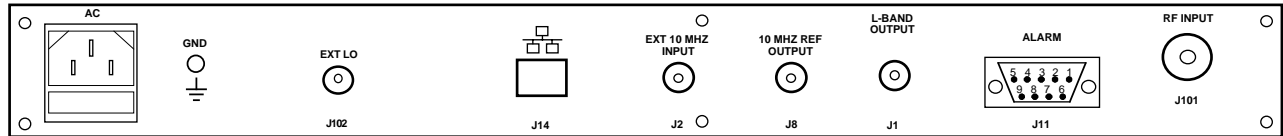

FIGURE 2.1 3116-107 Rear Panel I/O's
Figure 2.1 shows the input and output connectors on the rear panel.
1. Connect a -55 dBm to -35 dBm signal to RF IN, J101 (Figure 2.1).